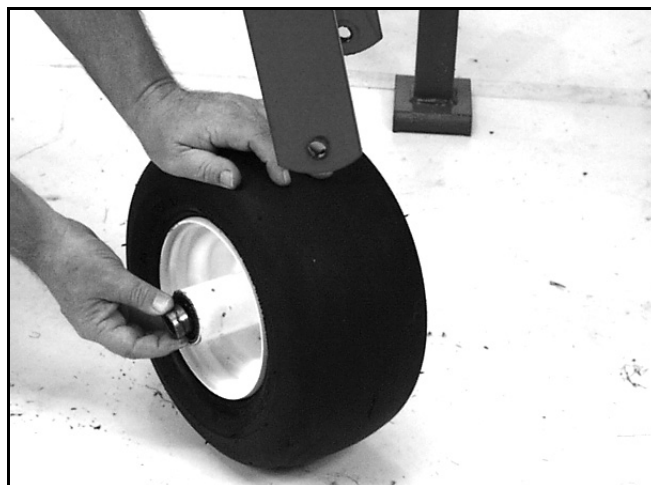

Figure 99
4. Remove the 2 wheel spacers (Figure 99).